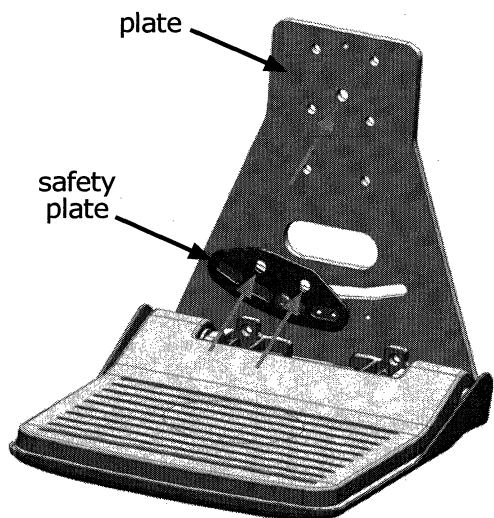

Fig. 1
4. Mount footrest to carriage by inserting three (3) M10-25 hex head cap bolts and three (3) safety washers.
Insert one (1) washer through top of plate and two (2) through safety plate (Fig. 1).